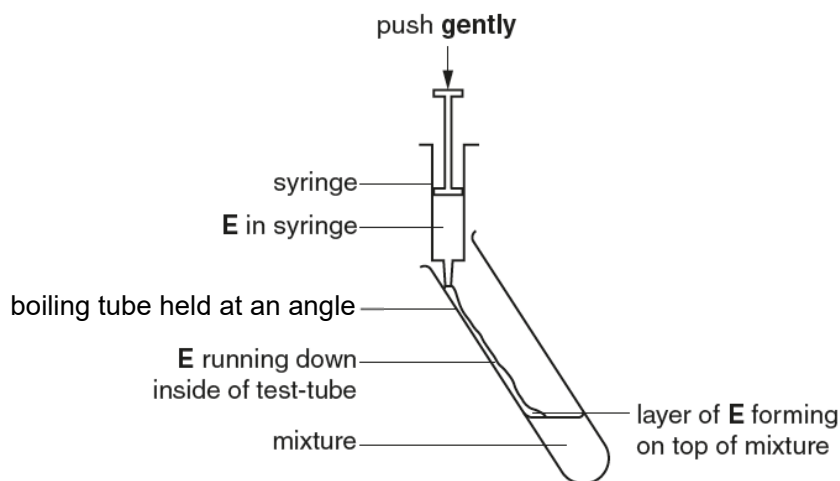

Fig. 1.2
- 9** Put 1.0 cm³ of **E** into the boiling tube, so that it runs down the side of the boiling tube and forms a layer on the surface of the mixture, as shown in Fig. 1.2.